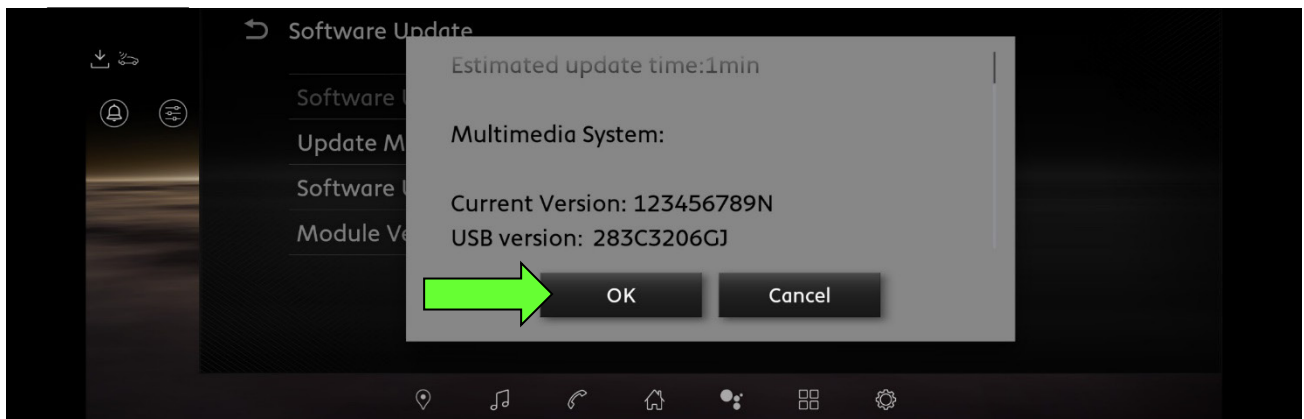

Figure 23
28. When the message in Figure 23 appears, scroll the message screen to the bottom and select **OK**.